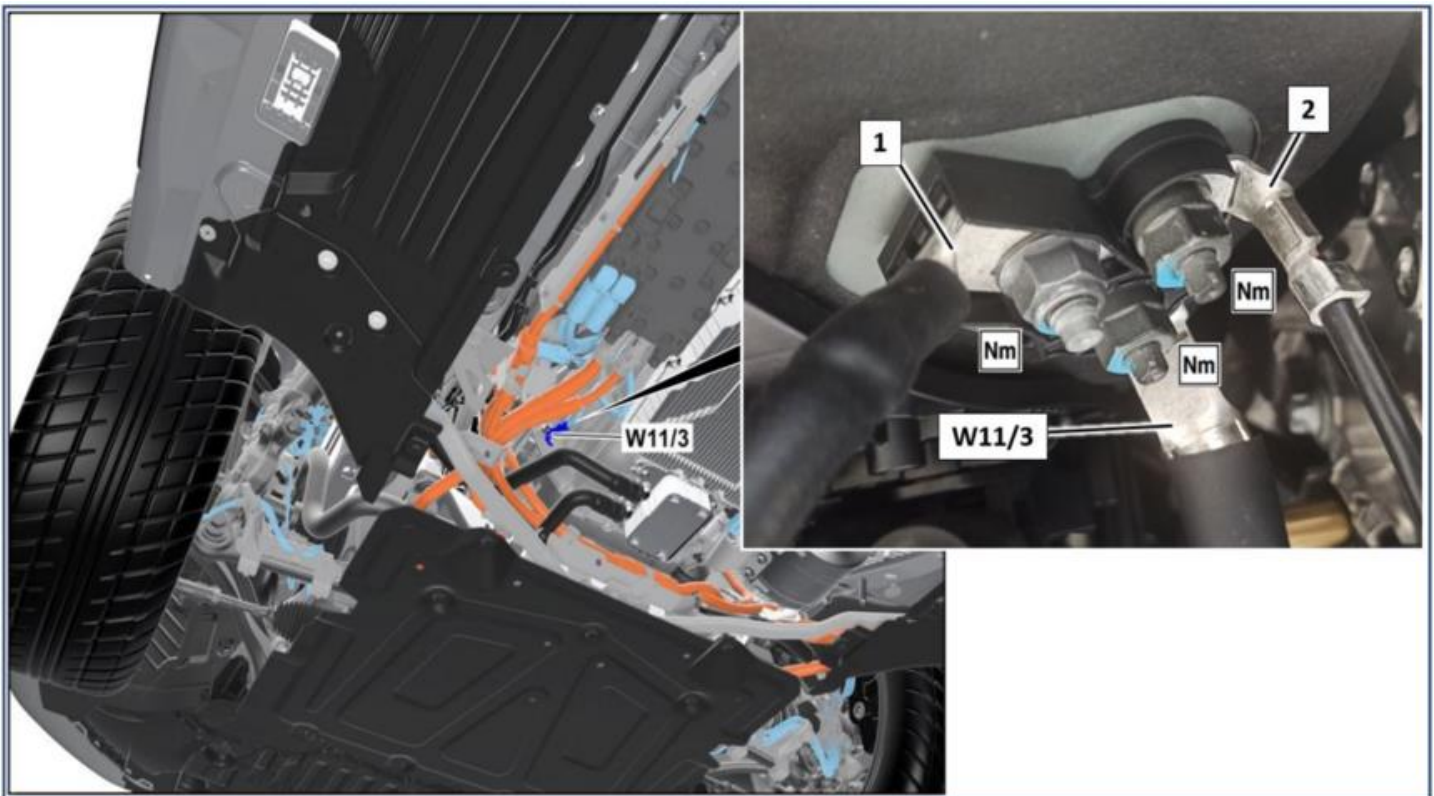

Figure 1
2. Check whether tightening torque of screw connections on ground points (1, 2, W11/3, Figure 1) is correct.
- Ground point on left of combustion engine (W11/3, Figure 1) 20 Nm
- Ground point of terminal 31, with code B01 (2, Figure 1) 20 Nm
- Ground point of terminal 41, with engine 654 and with code B01 (1, Figure 1) 16 Nm
1. Remove respective affected nut at ground point (**1, 2, or W11/3, Figure 1**) and perform a visual check of the affected electric line, contact area, and weld stud.
1. Replace respective nut at ground point (**1, 2, or W11/3, Figure 1**) and tighten to the specified tightening torque.
- Ground point on left of combustion engine (**W11/3, Figure 1**) **20 Nm**
- Ground point of terminal 31, with code B01 (**2, Figure 1**) **20 Nm**
- Ground point of terminal 41, with engine 654 and with code B01 (**1, Figure 1**) **16 Nm**